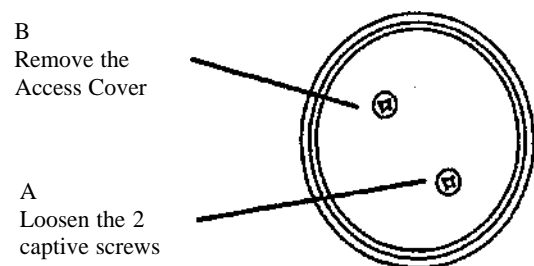

Figure 2. Access Cover
1. (Figure 2): Remove the access cover.